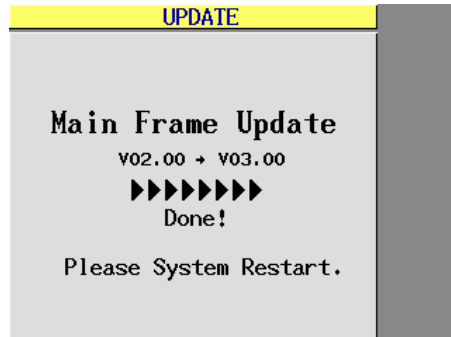

Fig. 9-2 Frame Controller Update Complete Screen
10. Update is complete when the screen (Fig. 9-2) appears.